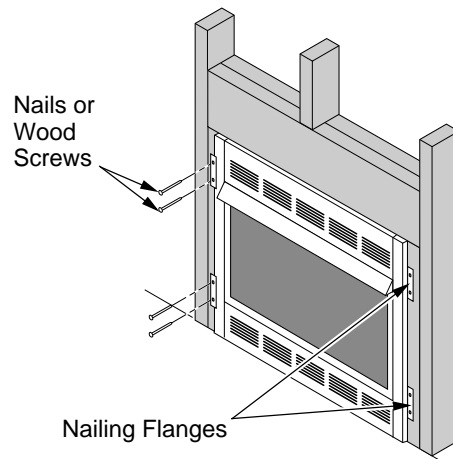

Figure 19 - Attaching Fireplace to Wall Studs (FPVF33PR Shown)
14. Attach fireplace to wall studs using nails or wood screws through holes in nailing flange (see Figure 19).